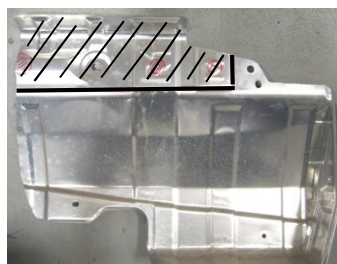
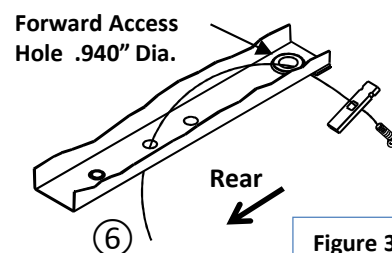

Figure 2
Figure 3
- Lower muffler** – Using an exhaust hanger removal tool or pry bar, lower muffler by removing (3) to (5) rubber hangers (varies by model year). A spray a lubricant or soapy water on rubber hangers makes them slide off metal pins more easily. **NOTE: Using a ratchet strap or bungee cord, be sure that exhaust is supported before removing rubber hangers.**
- Remove heat shield** – Using a 10mm socket, remove (4) screws holding heat shield(s) to vehicle. **NOTE: Shield will be trimmed and replaced prior to installing hitch.**
- Remove rubber plugs** - using a flat screw driver, remove (3) rubber plugs from the (3) forward holes in the bottom of the frame. Do not remove the rearmost rubber plug.
- Trim heat shield** – Using metal shears, trim the heat shield as shown. **See figure 2.**
- Reinstall heat shield** – Reinstall heat shield using (3) of the screws removed in step 2.
- Install fasteners** – Feed the coiled end of pull wire through the second attachment hole and out of the forward most access hole in the bottom of frame. Attach the 7/16" carriage bolt and 1/4" thick spacer block (item 2) to the pull wire and pull the fasteners into position, both sides. Repeat process for the middle attachment, both sides. Make sure the spacer blocks are sitting flat inside the frame and do not overlap. **See figure 3.**